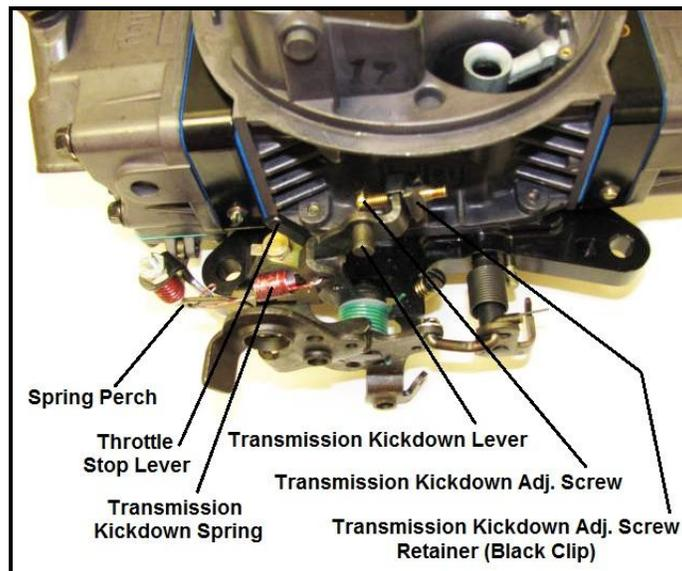
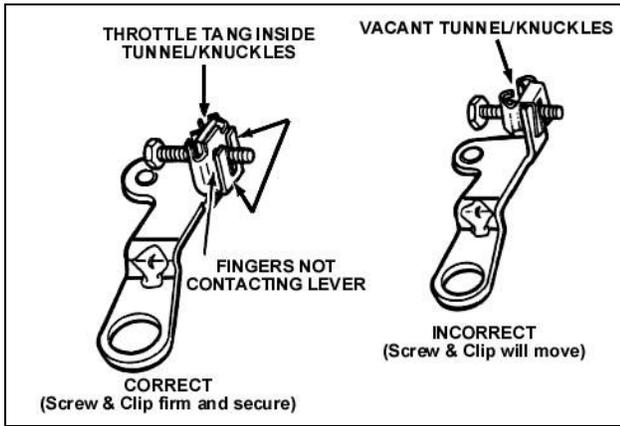

Figure 2—Ford applications
Figure 3—Ford applications
2. Insert the transmission kickdown screw with the black retaining clip on the transmission kickdown lever (**Figure 2**). This assembly must be installed according to the detailed drawing (**Figure 3**).
4. Install the transmission kickdown spring between the transmission kickdown lever and spring perch on the solenoid/dashpot bracket (**Figure 2**).